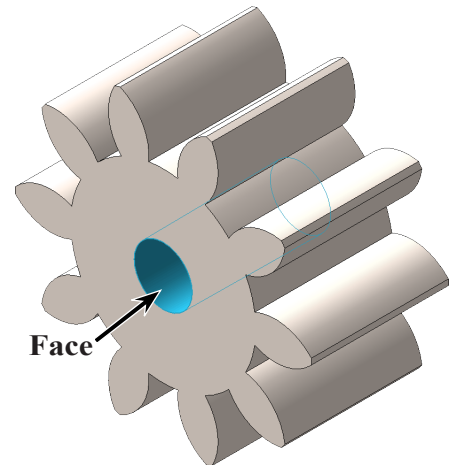

Fig. 13
click in the box and click a **cylindrical face**, **Fig. 13**
Step 2. In the Appearances Task pane, expand **Plastic**, click **High Gloss** and in the lower pane select **yellow high gloss plastic**, Fig. 13.